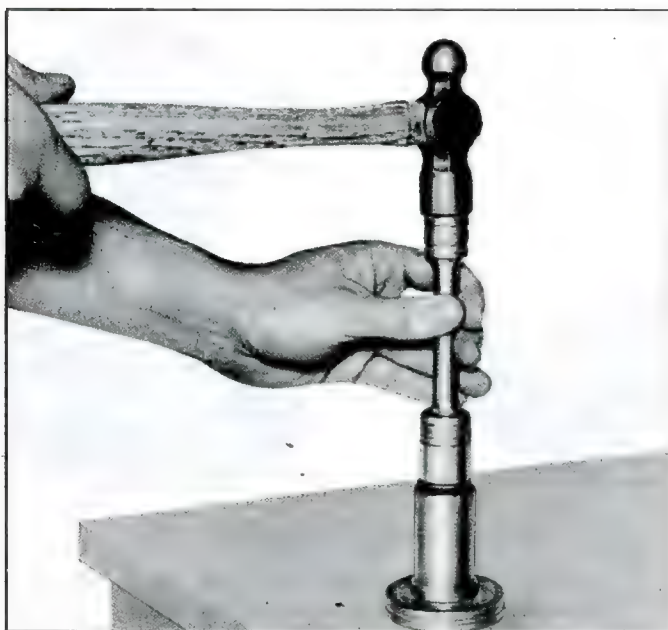

Fig. 36—Installing Clutch Release Bearing Shaft Seal with 3/4" Socket
2. Install new seal, open side inward, in shaft using a suitable socket (approximately 3/4") and socket extension (fig. 36). Drive seal until it bottoms, then install split ring in clutch release bearing shaft.